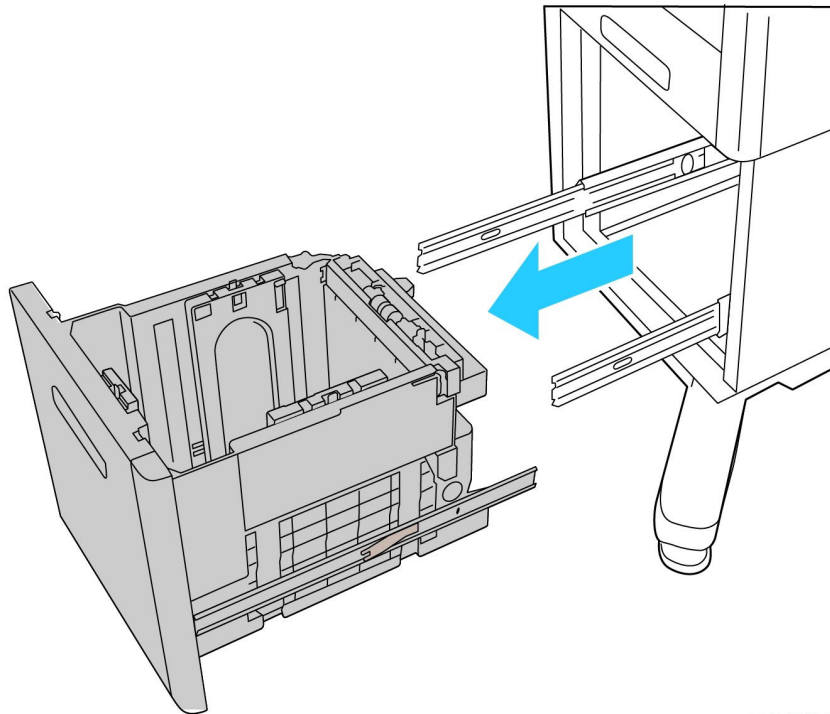

Figure 1 Releasing the HCF feeder drawer
2. Push in the spring-loaded hatch, one on each side, to remove the HCF feeder drawer, Figure 1.